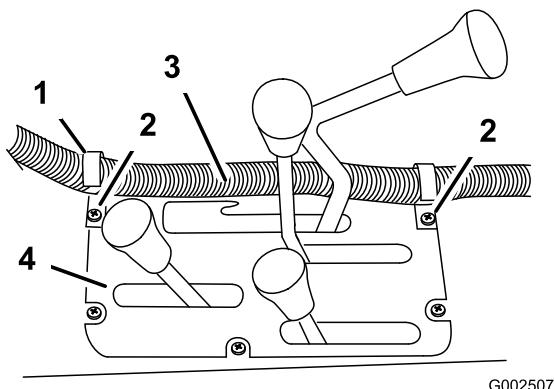

Figure 26
- Install two J-clips in the center console at the points located in Figure 26 using the existing screws.